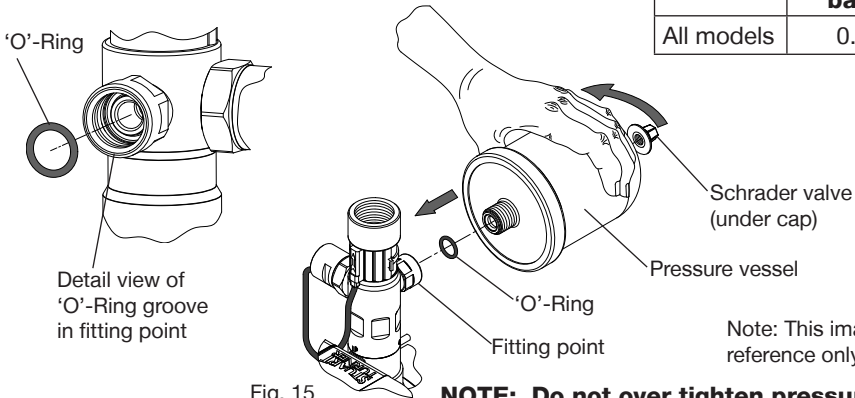

Fig. 15
- e) Check air charge at Schrader valve (Fig. 15) using a tyre pressure gauge.
- f) Replenish air charge by injecting air into the vessel via the Schrader valve using a car or bicycle pump (Fig. 15).